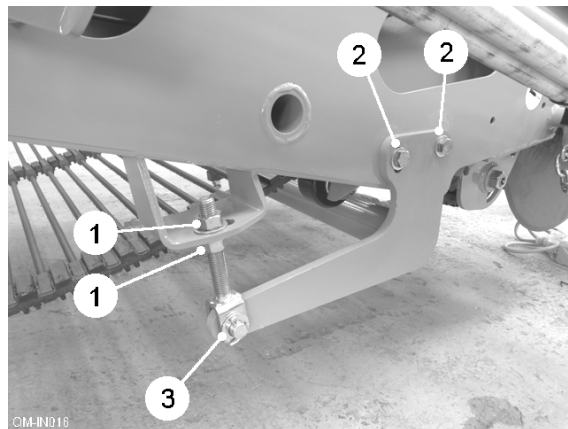

Fig. 7
To adjust the angle of the shares loosen the locknuts (item 1, fig. 7) on both sides of the machine, slacken mounting bolts (item 2, fig. 7) and re-position adjuster (item 3, fig. 7). Ensure both sides are adjusted evenly by measuring from the tip of the outer shares up to the disc support bridge above. The points of the share should be kept as high as practicable whilst still maintaining adequate digging depth. Lowering the points will assist penetration but may increase risk of crop damage. If the soil has been adequately cultivated this should not be necessary. If the pitch is too steep (points lowered) it can greatly increase the loading or 'bulldozing' effect on the share frame, especially when in hard or tough conditions. Regularly check for soil build-up on the share frame (especially in wet conditions) as a pad of soil at this point will create a considerable braking effect on the digger web. Ensure that the share frame is not in contact with the web bars at this point.